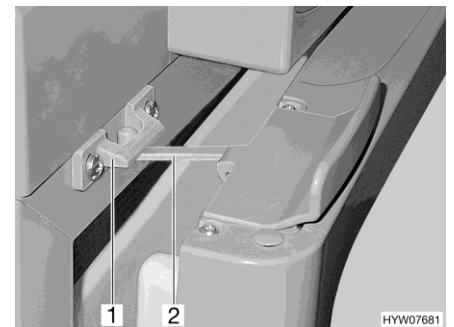

Fig. 151 Refrigerator door in ventilation position (Thetford)
- Open the lock (Fig. 151,2) and snap it into the locking catch (Fig. 151,1). The refrigerator door will then stay slightly open.